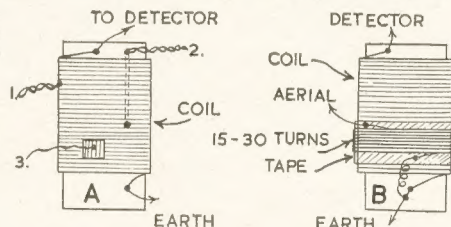

Fig. 2—Tappings and inductive couplings
(A) in Fig. 2 illustrates three ways of making such tappings. When the coil is wound, a loop may be made, as at 1. To
Actually, a coil such as that shown at (B) in Fig. 2 can give excellent results. Tuning is sharpened a great deal and volume is not reduced too severely.